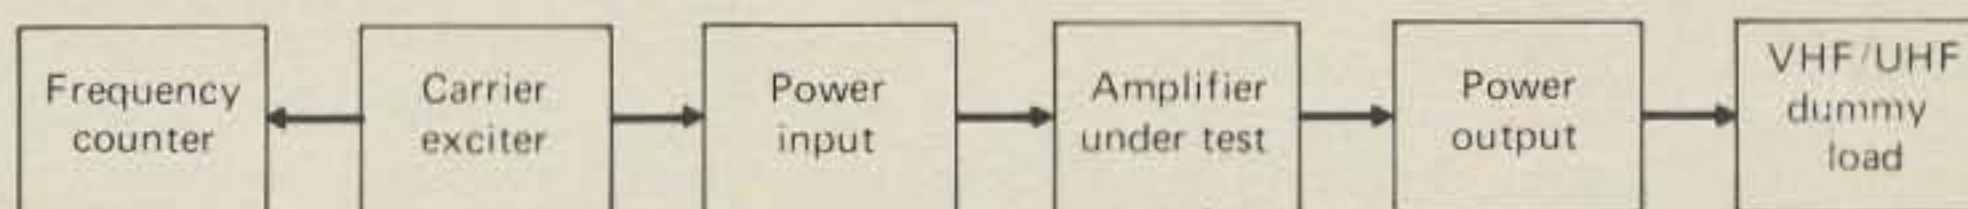

Fig. 1 - Test setup for servicing power transistor v.h.f./u.h.f. amplifiers.
R.f. transistor power amplifiers are comparable to tube power amplifiers in complexity with respect to troubleshooting and servicing difficulties. However, the mode of operation of transistor power amplifiers is quite different from tube power amplifiers so that the set of servicing difficulties and solutions are also quite different. The servicing troubles divide into two or three main categories. They are d.c., r.f. and combinations of the two. D.c. problems are first discussed, r.f. problems are discussed second, and combinations plus miscellaneous problems are discussed last. Figure 1 shows a typical test setup for servicing which is self explanatory.